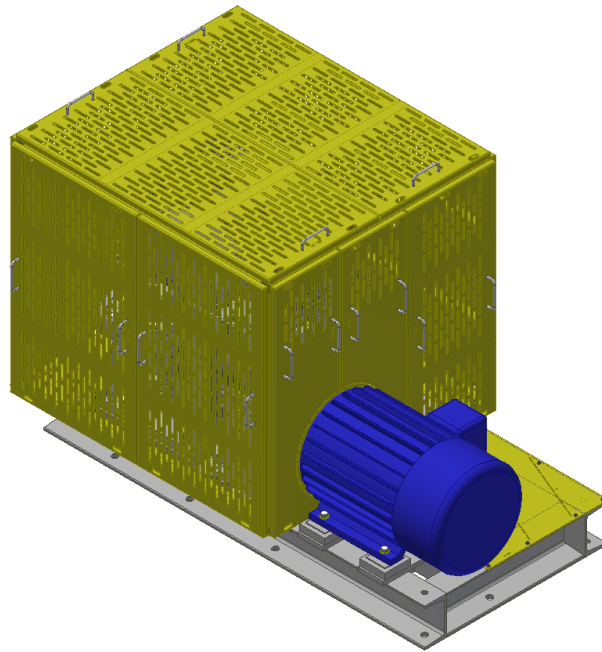

Figure 33: Machine Guard Side Panel Installation
- Attach Machine Guard Side Panel(s) (p/n _ _-235) and tighten #10-24 screws as shown below (Figure 33).